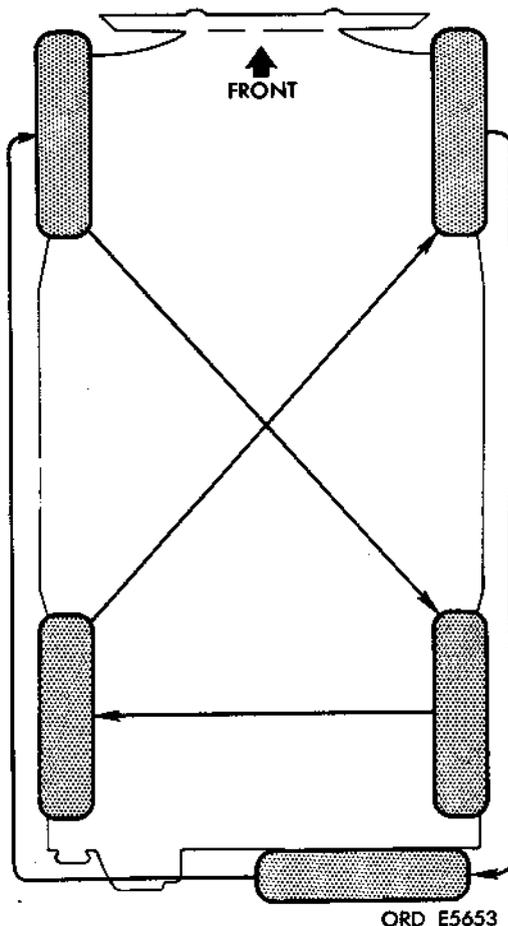

Figure 2-379. Tire rotation plan.
(1) Replace any tire with noticeable cut on tread or side wall. Return tire to support maintenance unit for repair. If wear is uneven check toe-in adjustment (para 2-150). If incorrect toe-in is not the cause, report to support maintenance personnel.
(2) Check pressures when tires are cold. Dismount any tire showing unusual pressure loss and examine tire and tube for cause. Replace tube or tire as necessary.
(3) Inflate tires to pressure designated on vehicle data plate. Unequal pressures will affect steering and braking adversely. Underinflated tires are easily damaged. Install all valve caps to help prevent air loss.
c. *Tire Rotation.* To maintain equal wear, rotate tires in accordance with tire rotation plan shown in figure 2-379 at intervals of approximately 2000 miles.